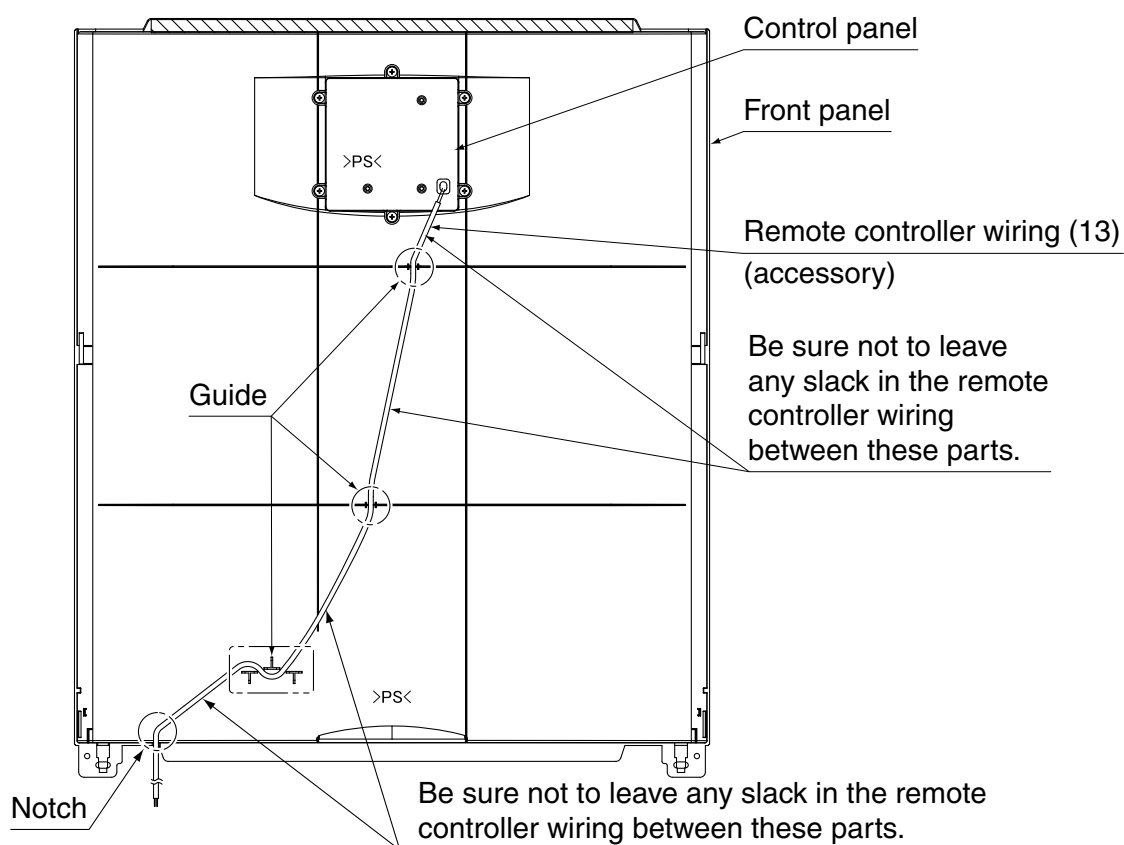

Fig. 27
4. Clip the remote controller wiring into the guide and notch. (Refer to Fig. 27)